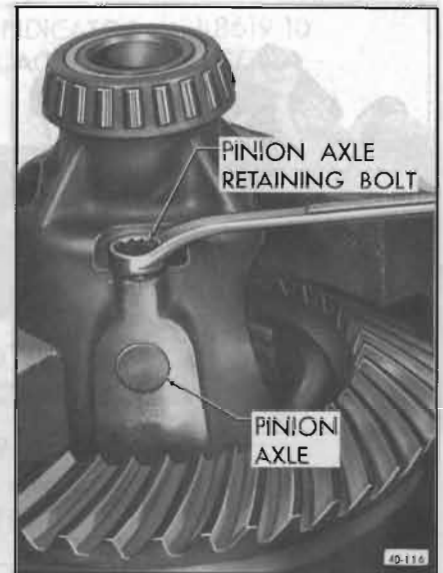

Figure 40-103—Removing Pinion Axle Retaining Bolt
2. Remove bolt that retains differential pinion axle. See Figure 40-103. Remove differential pinions, side gears and thrust washers from case.